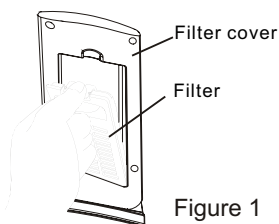

Figure 1
1. Press down elastic trip at upper end of thread chips filter to make the claw of elastic trip disconnecting from the filtration cover and pull thread chips filter outward for dismantling. (As illustrated in Figure 1)